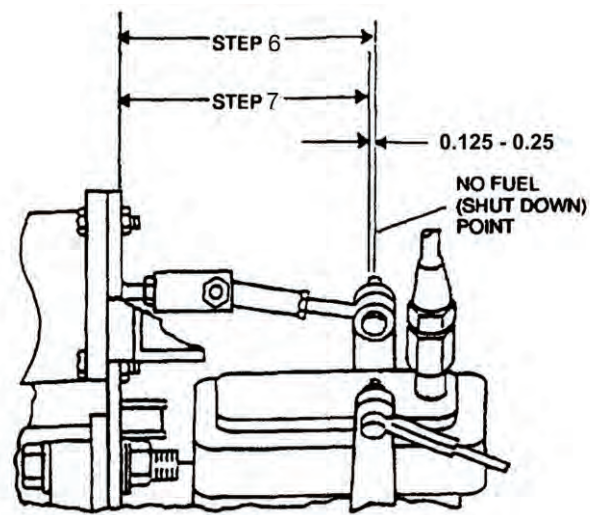

Figure 2. Governor Actuator Adjustment.
2. Remove nut (2) and disconnect rod assembly (5).
6. Mark position of fuel injection pump lever on engine block at exact no fuel (shut down) point. Measure injection pump lever center line position to mounting surface of actuator. Refer to Figure 2.